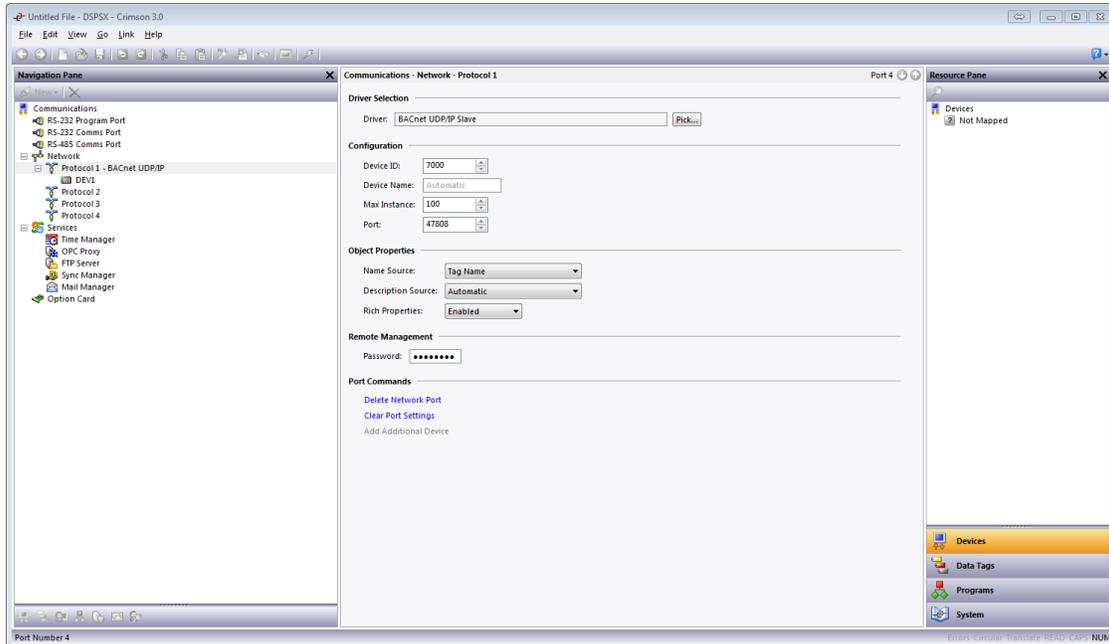

Figure 12.
5. Referring to Figure 12, configure the device: